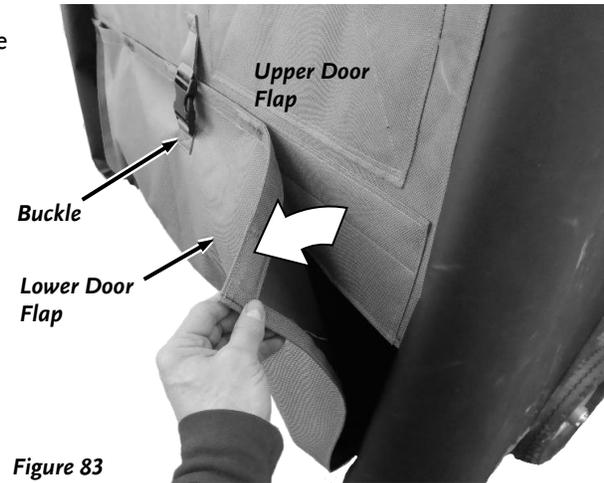

Figure 83
2. Unlatch the Buckle that secures the top and bottom Doors (**Figure 83**).